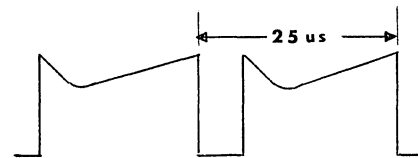

Figure 5-3
6. Apply nominal input power and turn A2R11 slowly clockwise. The output voltage should increase and the current waveform on oscilloscope should appear as in pattern of Figure 5-3.